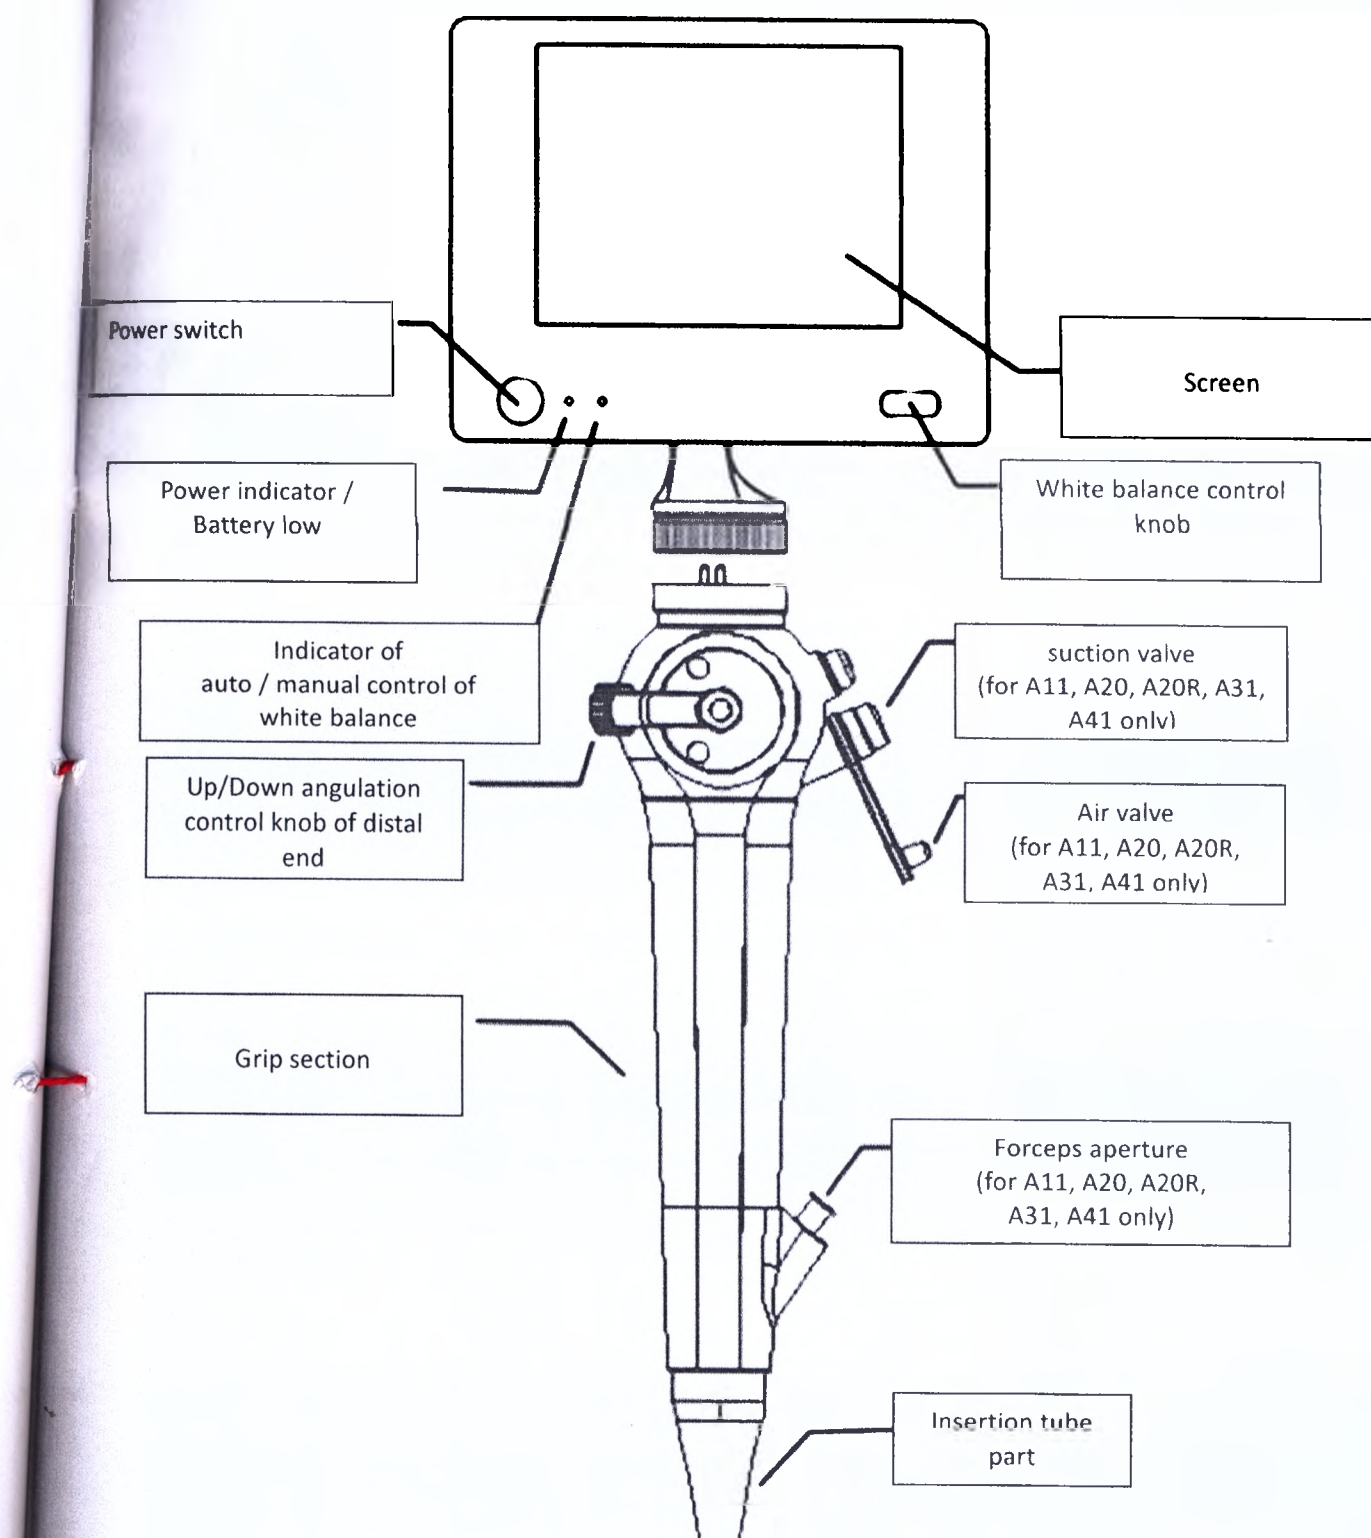
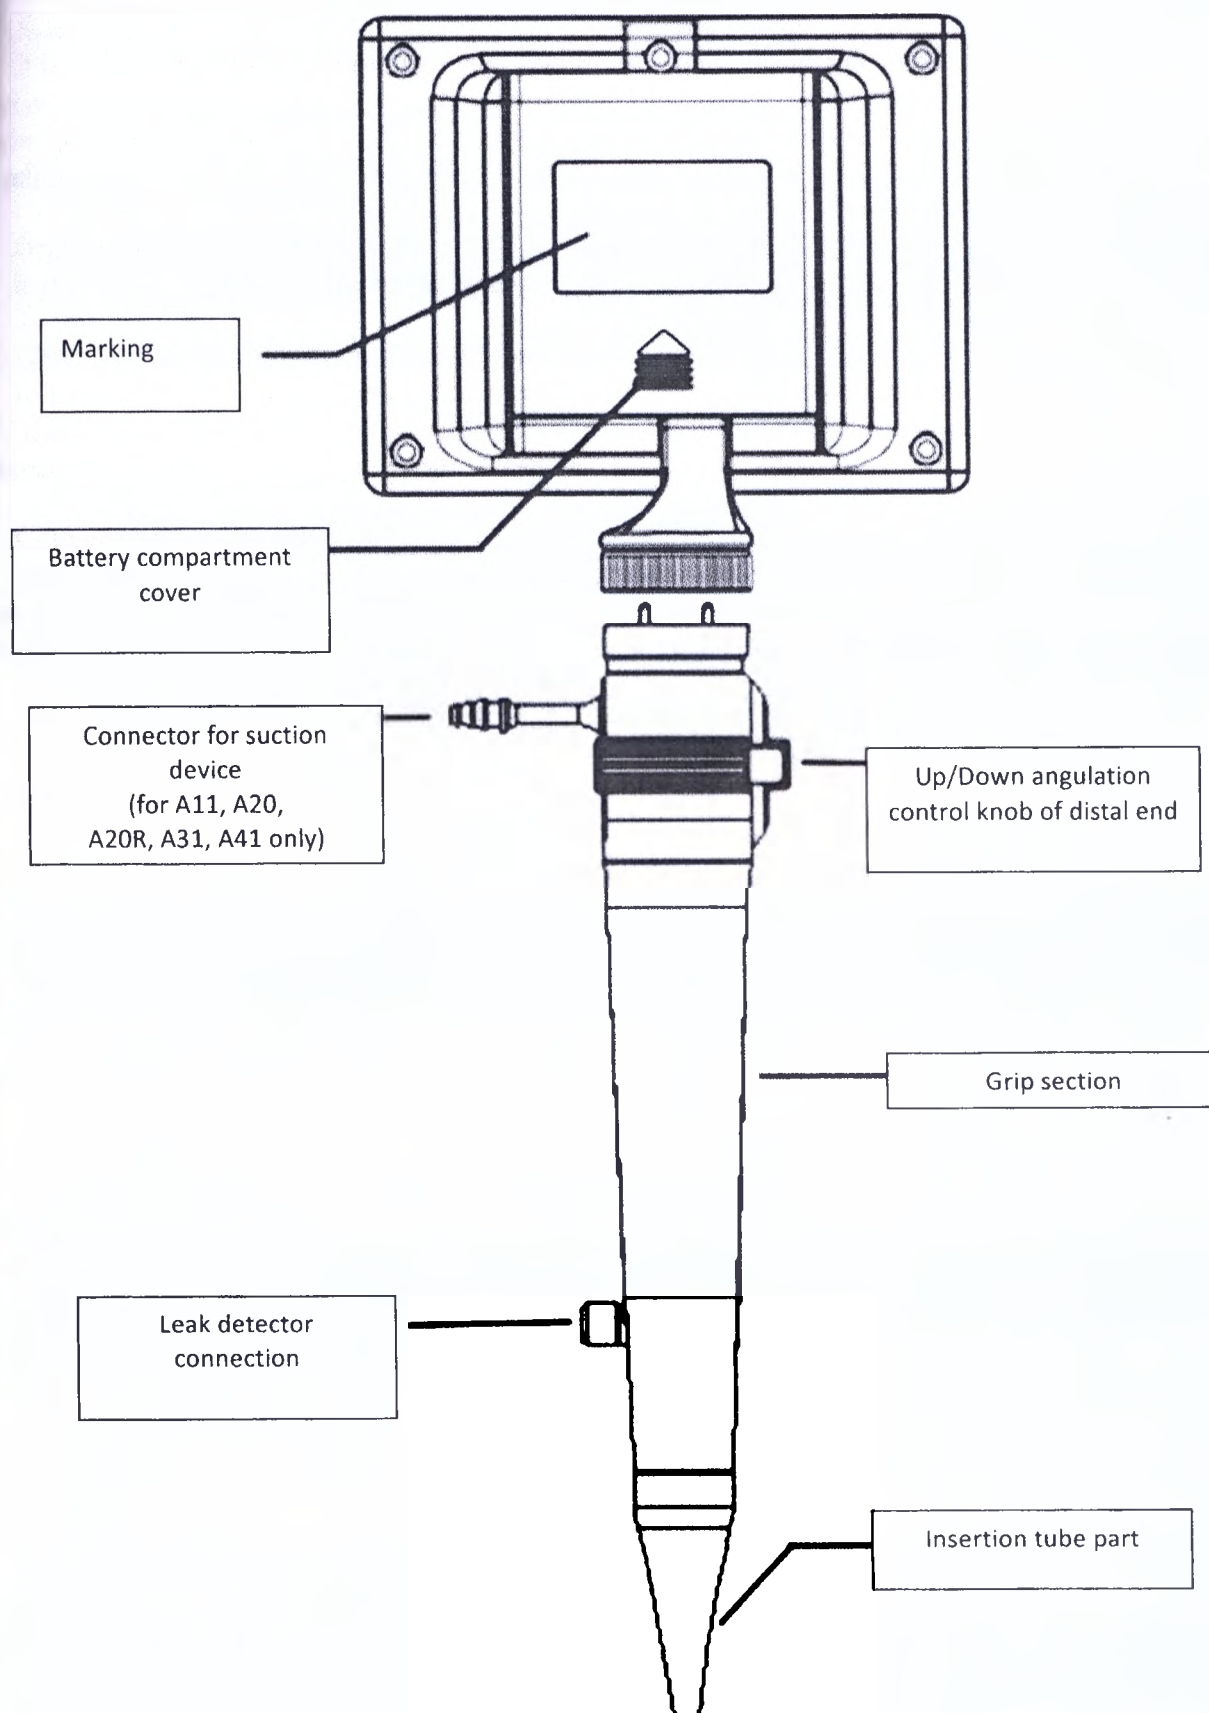

Fig.1
Fig.2
5.1 Components Description (see Fig.1 and Fig.2)
It is used for an aspiration control. Aspiration is performed by holding the suction valve button (in case of connected suction device – it is not supplied with Intubationscopes). Insert the suction valve into aspiration control channel connector (please see fig.1).
It is used for opening/closing of the suction valve. Insert it into aspiration control channel connector for connection (please see fig.1).